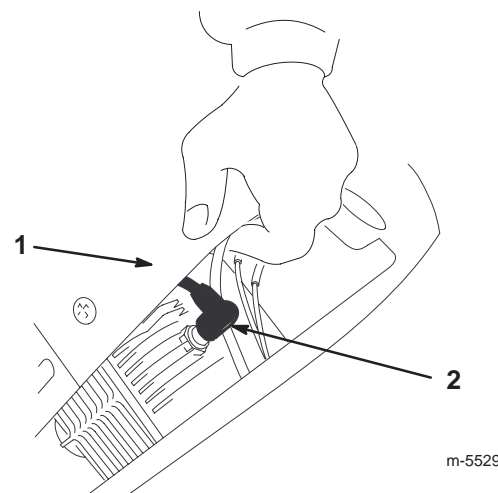

Figure 24
2. Mounting screws (3)
5. Lift up the shroud and disconnect the wire from the spark plug (Fig. 24).